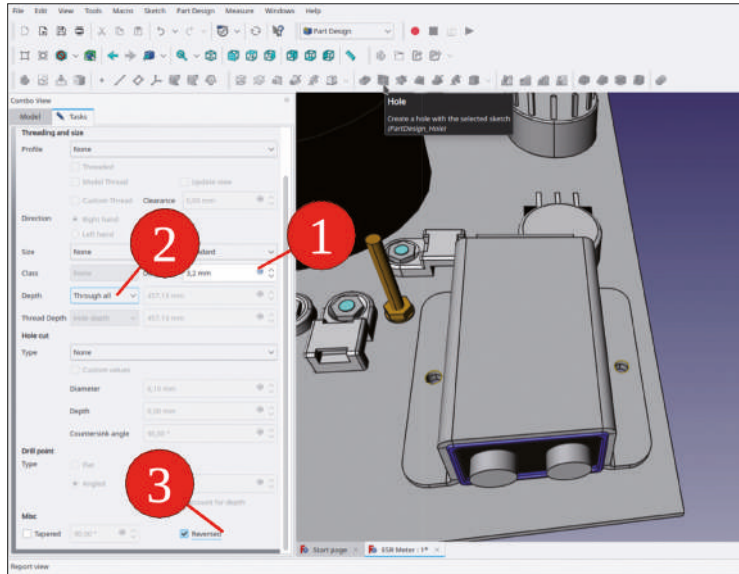

Figure 7-57
24. In the tree view, mark the new SubShapeBinder, and click the 'Hole' tool button. In the task window, enter for the diameter 3.2 mm, and select for the depth 'Through all'. Also, check the 'Reversed' checkbox (Figure 7-57). Close the task window with the 'OK' button.